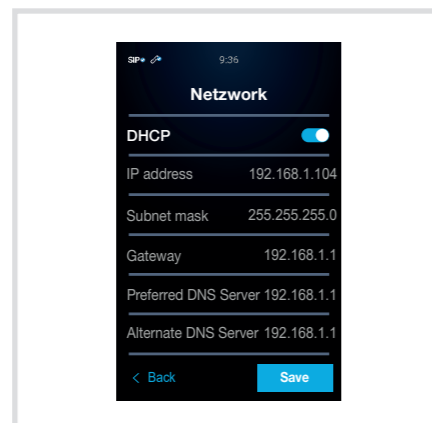

Fig. 36: Automatic assignment
- For the automatic network setting, position **DHCP** on On (Figure 36).